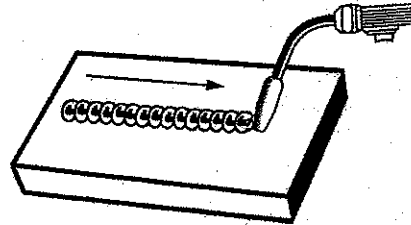

Figure 12. Stringer Bead
1. The **STRINGER BEAD** (Figure 12) is formed by traveling with the gun in a straight line while keeping the wire and nozzle